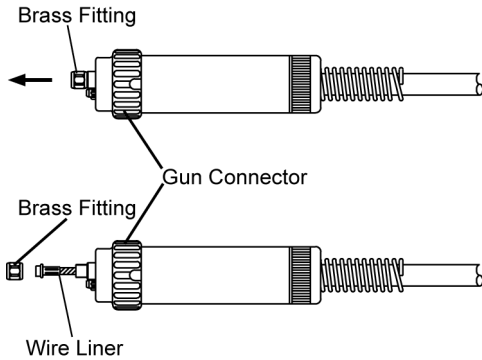

Figure 22. Replacing a Wire Liner
3. Using a 12 millimeter wrench, loosen and remove the brass fitting which extends from the end of the gun connector (See Figure 22)